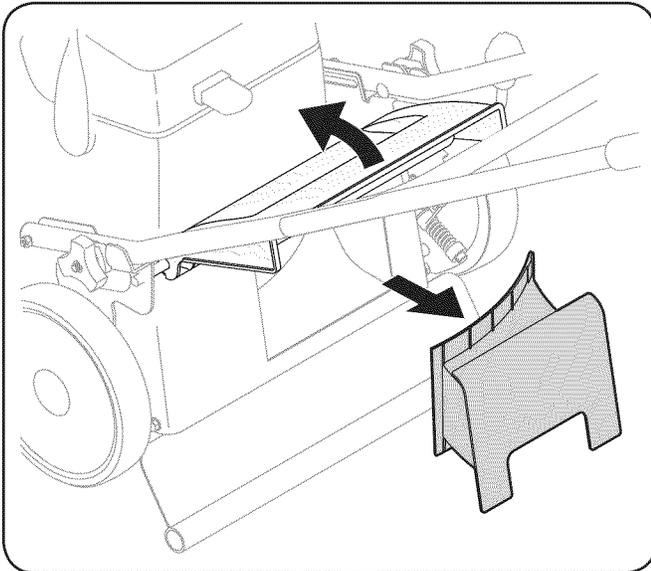

Figure 3-7
- b. Remove rear mulching baffle. See Fig. 3-7.